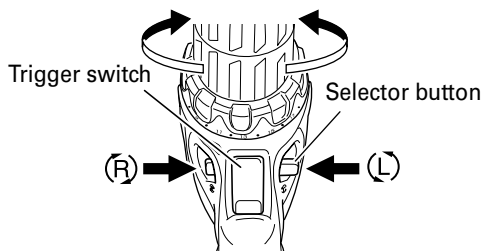

Fig. 10
The L-side of the selector button is pushed to turn the bit counterclockwise (See Fig. 10). (The (L) and (R) marks are provided on the selector button.)